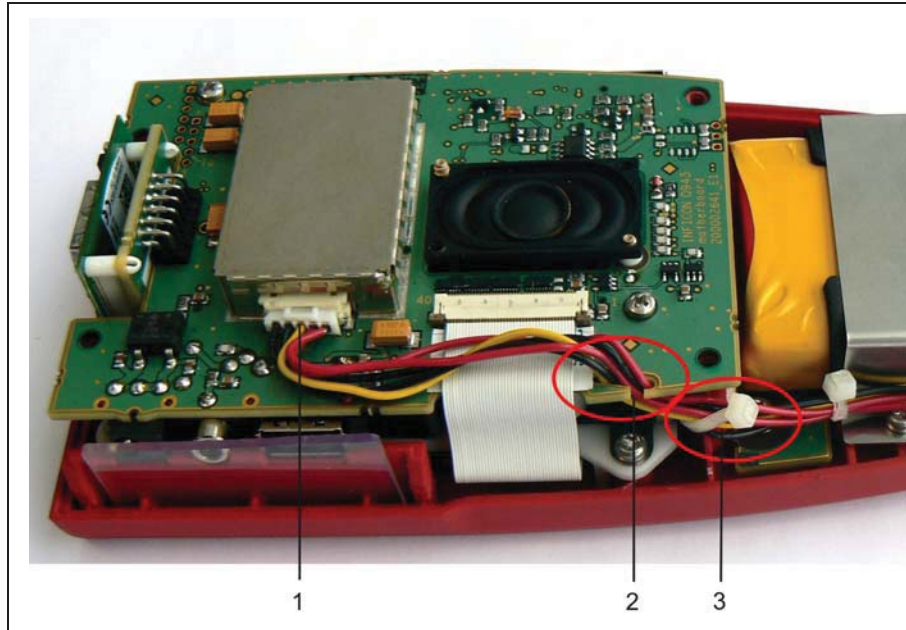

Fig. 40 Wiring of the rechargeable battery
- Lay the cables of the rechargeable battery as shown in Fig. 40. Thread the cables into the cable guides on the printed circuit board and in the top cover. Fix the cables with a cable tie.